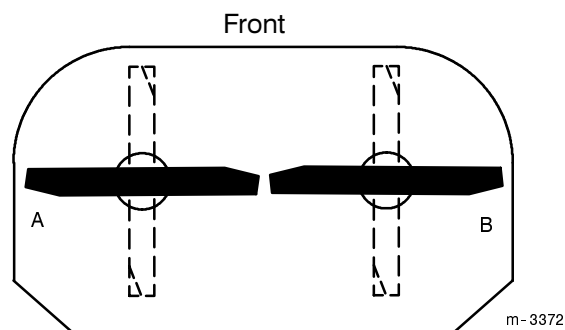
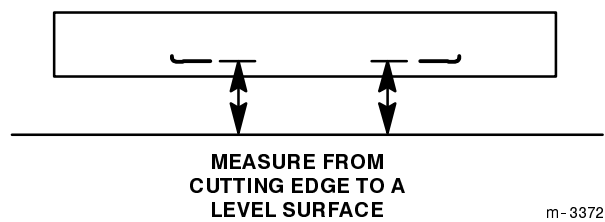

Figure 31
Figure 32
2. Position the blades side-to-side (Fig. 31). Measure at “A” and “B” locations (Fig. 31) from a level surface to the cutting edge of blades (Fig. 32).